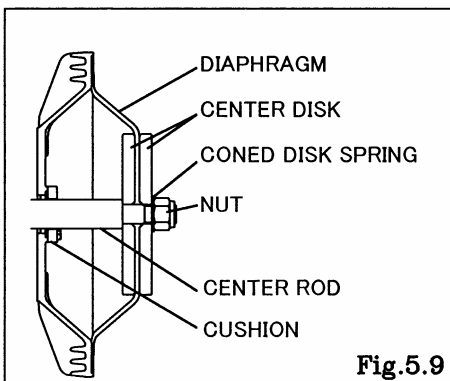

Fig.5.9
- Fix a double nut to one end of the center rod and take the diaphragm and center disk off the opposite end. [Fig.5.9] Be careful not to scratch or score the center rod.
- Insert the cushion (except with the NDP-80). (cf. Fig.5.9)
- Draw the center disk to one side (exclude B_H, B_S type cf. Fig. 5.9).